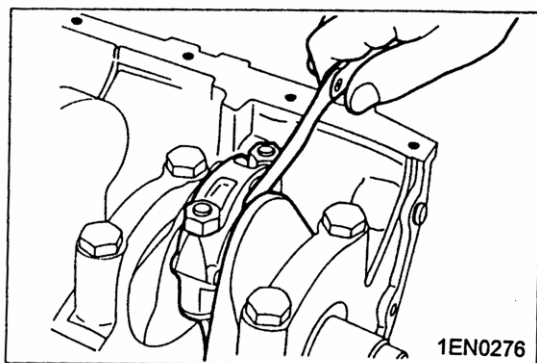

Fig.4-60
- b Check that the connecting rod big end side clearance confirms with specifications, see Fig.4-60.